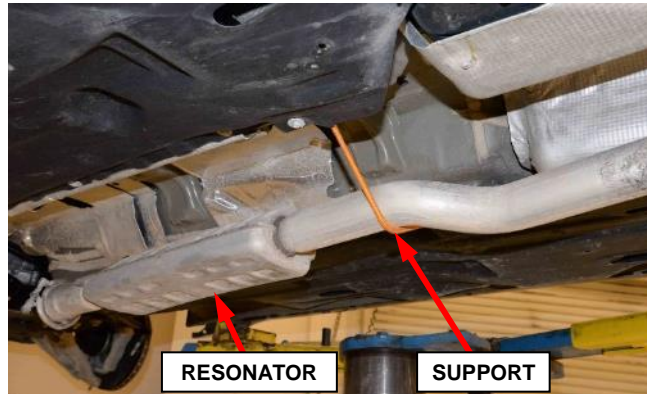

Figure 49 – Support Exhaust
- i. Support the exhaust system resonator (Figure 49).